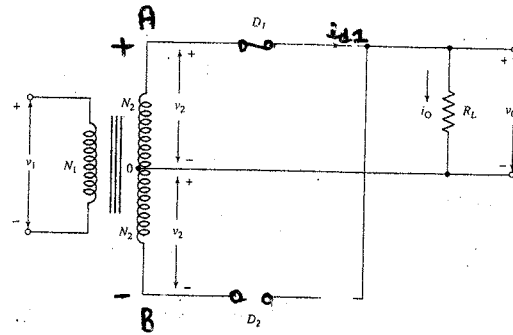

Fig 2.
diode D_2 is reverse biased and acts as open circuit and will not conduct as shown in fig 2.
- ❖ From fig 2 & 3 it can be observed that **current** in the **load R_L** is in the **same direction** for **both half cycles** of **ac input voltage**.